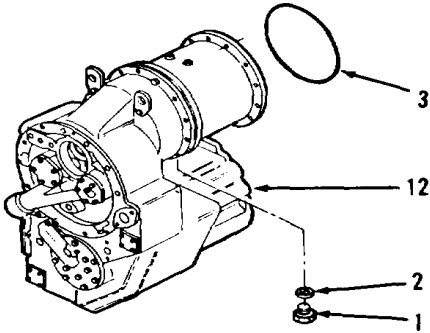

Figure 5-34.
- 1. Remove plug (1) and gasket (2, Figure 5-34) from transmission (12). Discard gasket (2). Remove all gasket material from mounting surfaces.
- 2. Remove and discard preformed packing (3).